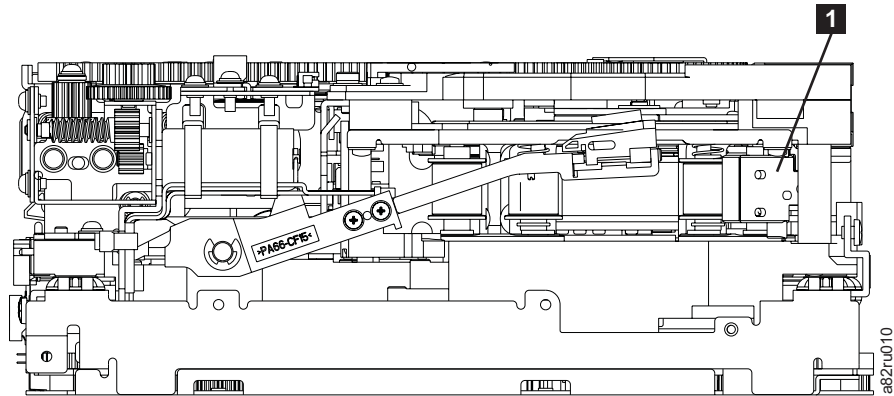

Figure 134. Leader Block Assembly (LBA)
- ___ 9. Rotate the threader motor worm gear (**4** in Figure 133 on page 293) to turn the threader mechanism gear (**6** in Figure 133 on page 293) counterclockwise. This moves the LBA out of the cartridge and past the read/write head. Stop this rotation when the LBA is near the tape guide roller nearest the rear of the drive shown as **1** Figure 134.